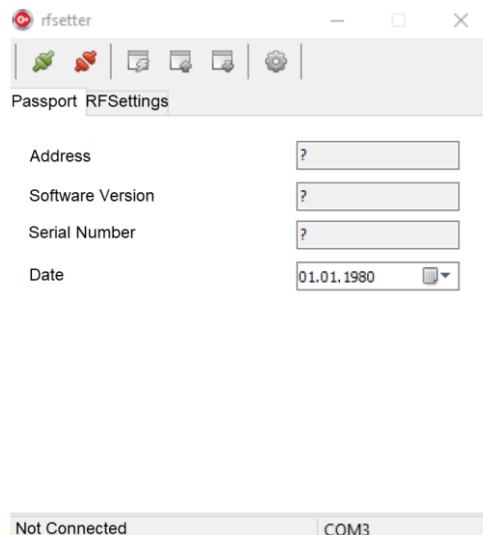

Figure 4. Setup of connection in the "rfsetter" software
1. Connect the "MASTER" antenna, run the "rfsetter" software and perform a COM-port setting (see Fig. 4, 5, 6).